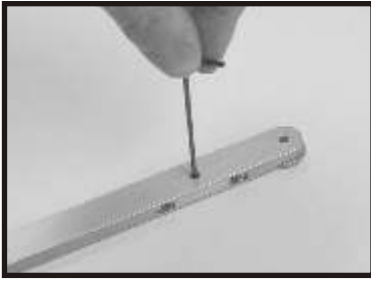

FIG. 11
11. The bar on the miter gauge has two hex key adjustment locations to remove any side to side slop in the miter slot. Adjusting the fit can be done easily from above the table. Turn the hex key clockwise to tighten and counter clockwise to loosen. Alternate between the two hex key locations and make only slight adjustments while testing the movement of the gauge in the track (Fig. 11).